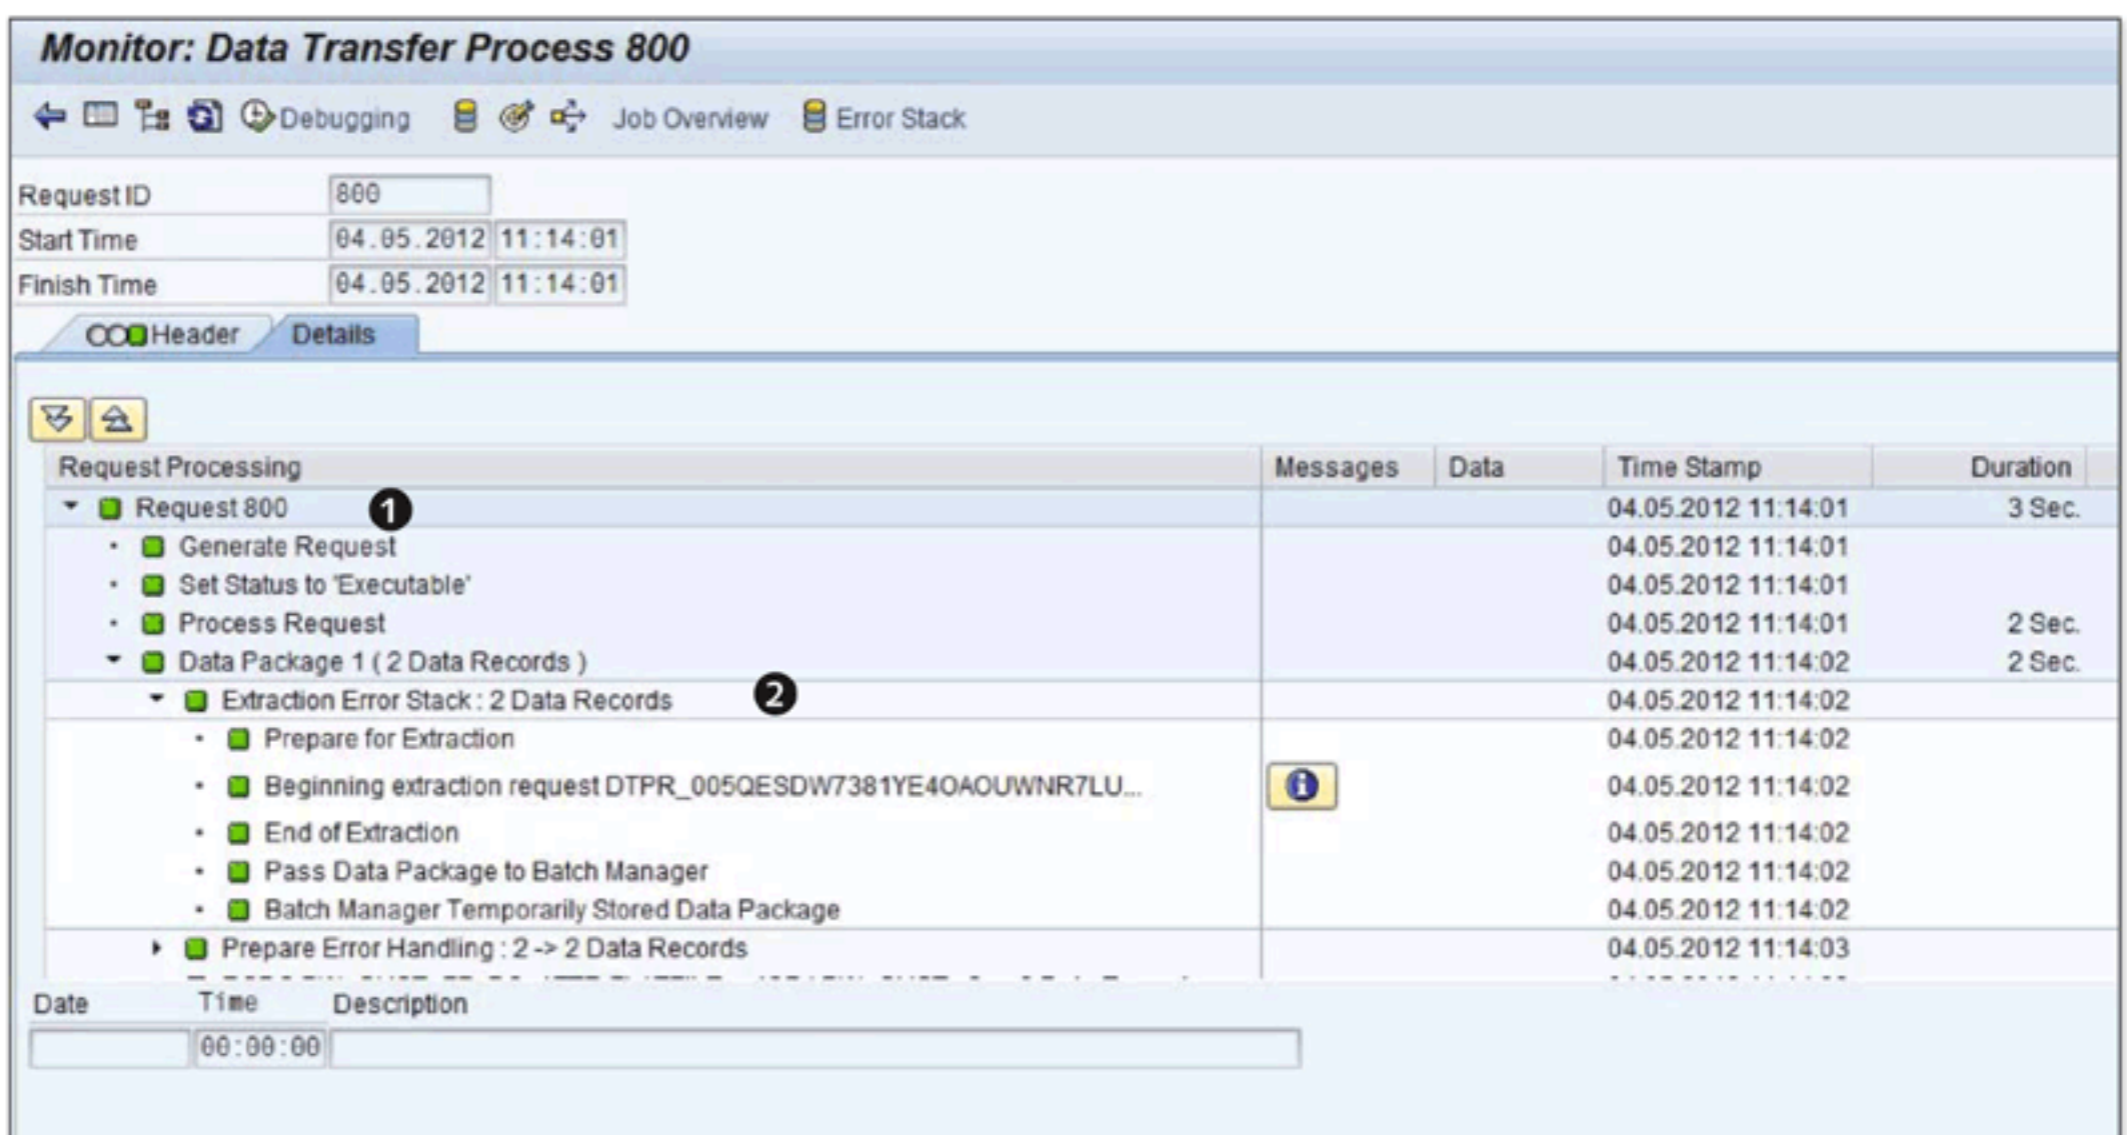

Figure 7.87 Monitoring Error DTP
This brings you to the monitor screen of the error DTP, as shown in Figure 7.87. This time, instead of extracting records from a DataSource, the system is extracting them from the error stack (❷). Because the error has been addressed, the request status is successful (green) (❶), and the system deletes the record from the error stack.